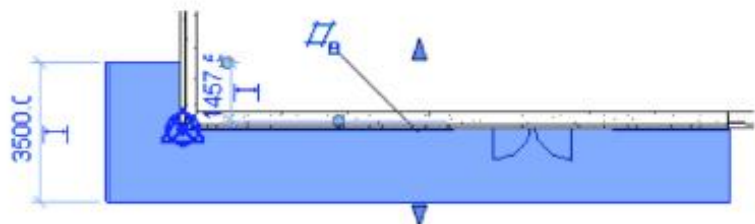

Figure 11–30
- Select the Entrance roof and using controls, move the roof outward so that the length is **3500mm**, as shown in Figure 11–30.